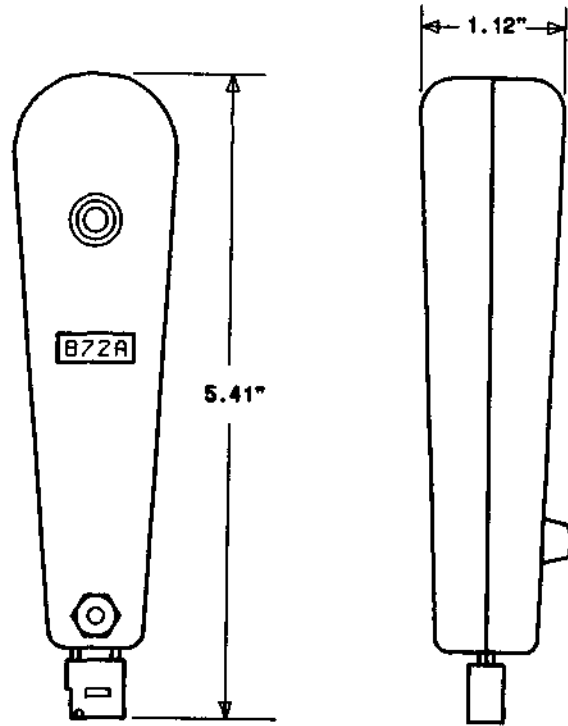

Fig. 17—872A Insertion Tool
2.19 872A: The 872A insertion tool (Fig. 17) consists of a flexible, restrictive and nonrestrictive blade. It is used to correct faulty 78-type terminals in the COSMIC main distributing frame.